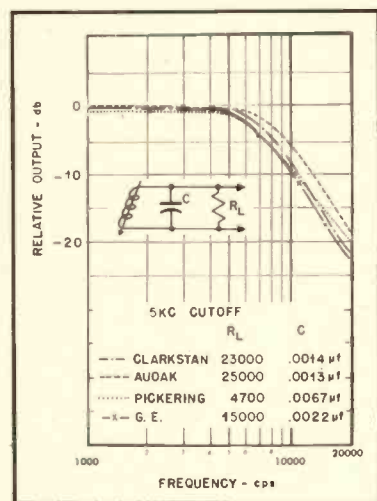

Fig. 14. Curves showing 5000-cps cutoff for the four pickups when shunted by resistors and capacitors shown in the legend.
When the values of R_L and C satisfy the relationships expressed by Eqs. (3) and plotted in Fig. 5, a low-pass constant- K filter network results. To indicate the kind of result to be expected with each of the four pickups, Fig. 14